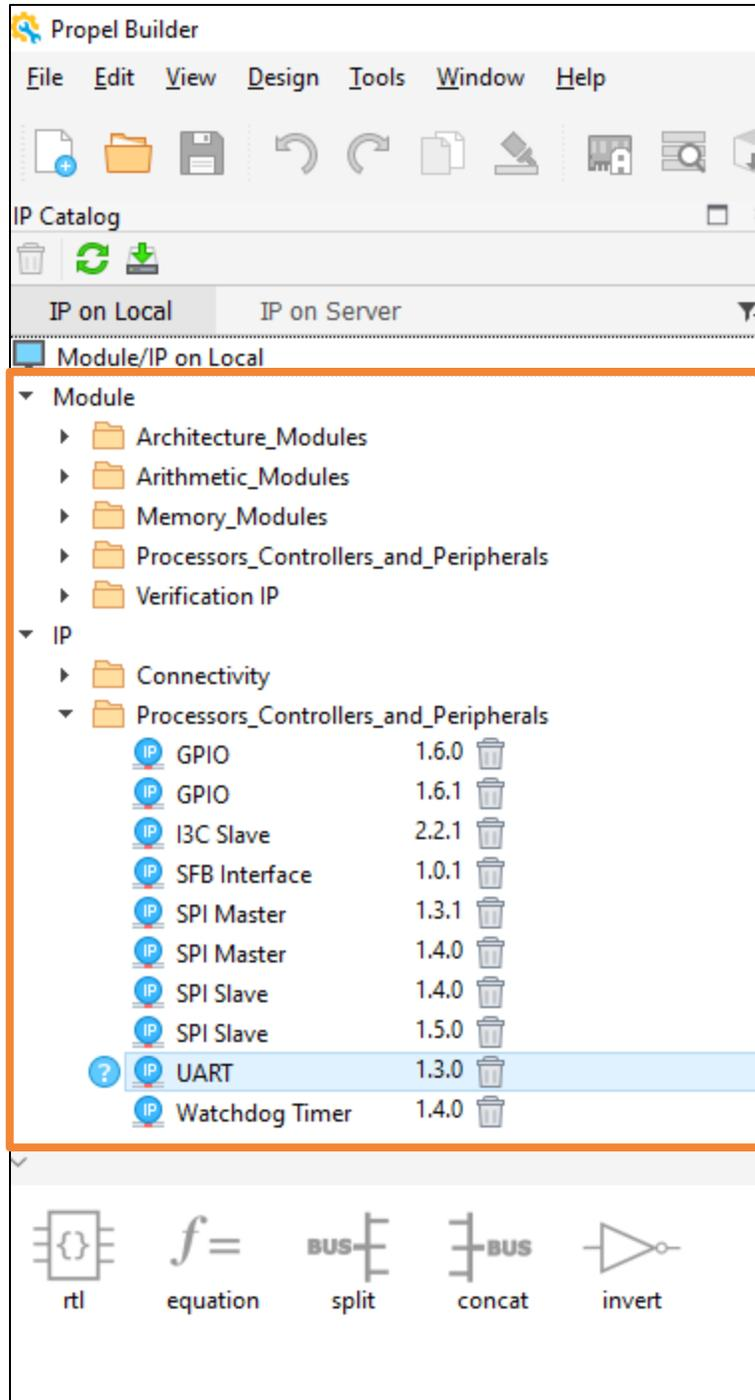

Figure 2.16. IP Catalog
1. Being installed successfully, the new IP is shown in the **IP on Local** tab (Figure 2.16).